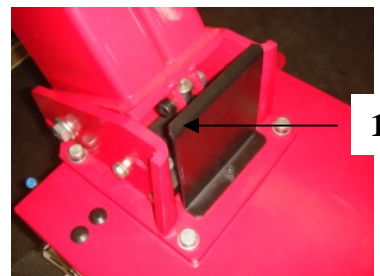

Fig 12
3.2.4.4 Installation of the column protective cover : Position the protective cover (12—1) at the upper block of column. Align the hole and install as shown in Fig 12.